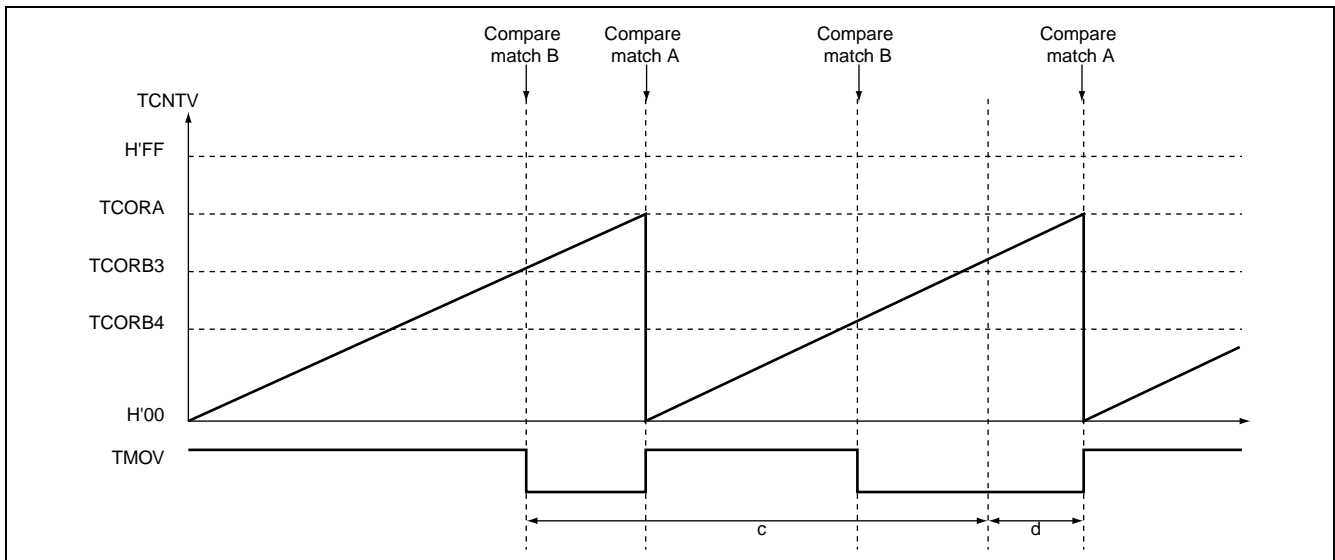

Figure 2.4 TCORB Rewrite Timing for Lower Duty Cycle
Figure 2.4 shows the timing for rewriting TCORB to reduce the duty cycle.
- TCORB is updated to the new value immediately after being written to. Therefore, if TCORB is rewritten during period d in figure 2.4 to reduce the duty cycle, the following compare match B does not occur, and a normal PWM waveform is not output. Accordingly, TCORB must be rewritten during period c, as shown in figure 2.4.